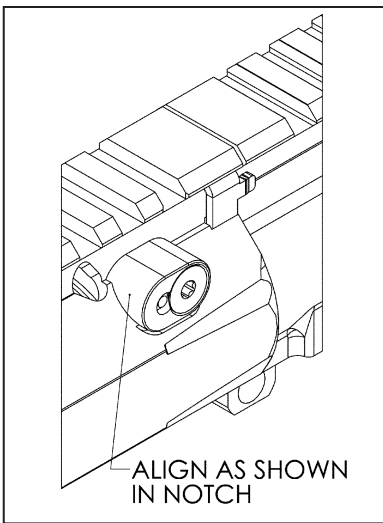

Figure 3
16. Starting on either side, locate and place a clamp block as shown in **Figure 3**.